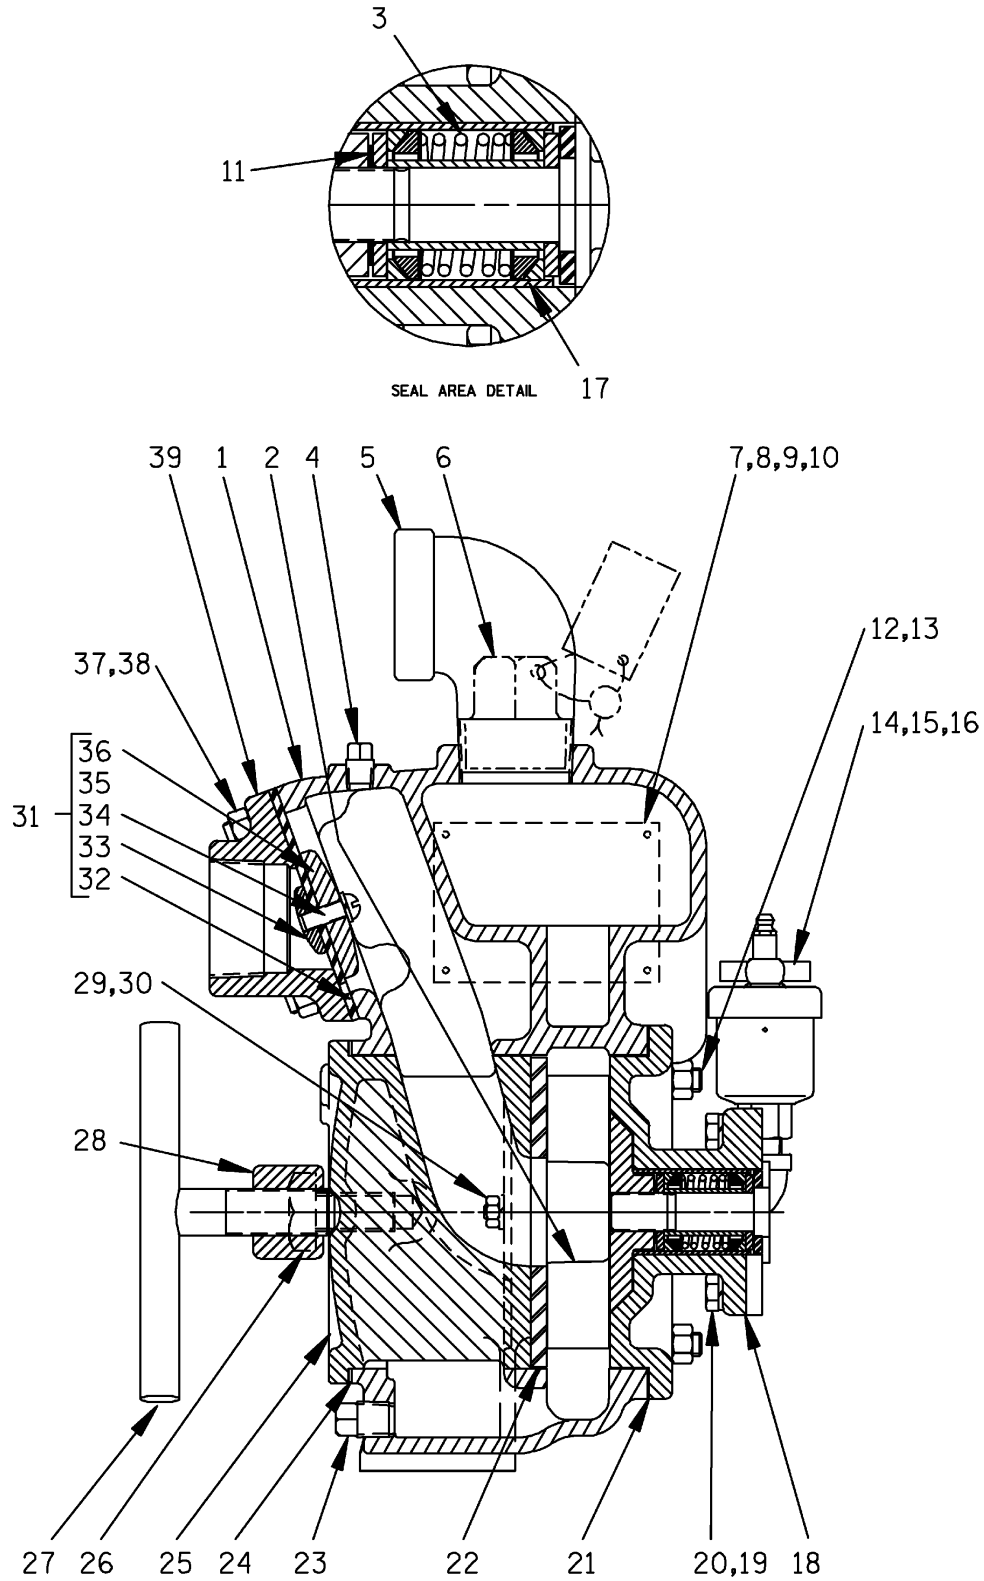

Figure 2. 11 1/2A2-(9) Pump End
### Suction Check Valve Removal and Disassembly (Figure 2)
**(Figure 2)**
#### (Figure 2)